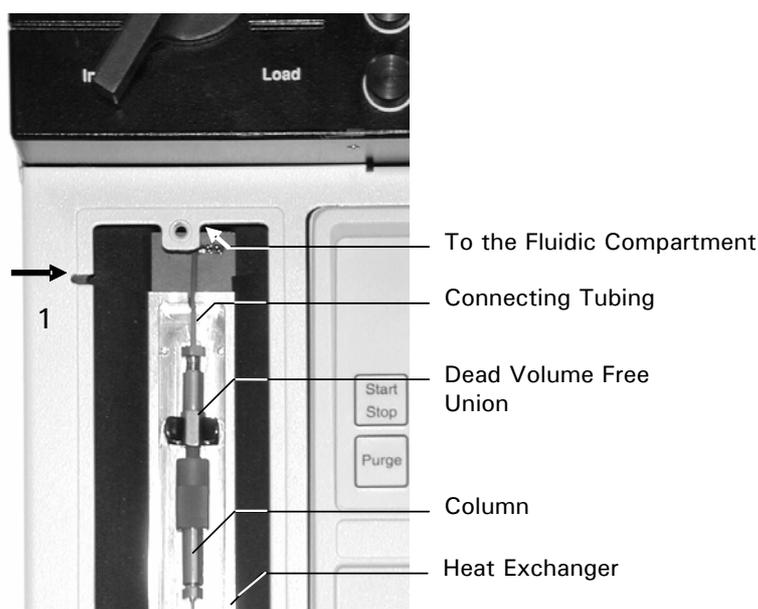

FIGURE C-1. Installing of a 180 µm – 800 µm Column in the UltiMate Oven
When installing a Nano column, use one of the slots around the oven cover plate to keep the connection as short as possible (e.g. item 1, FIGURE C-1).